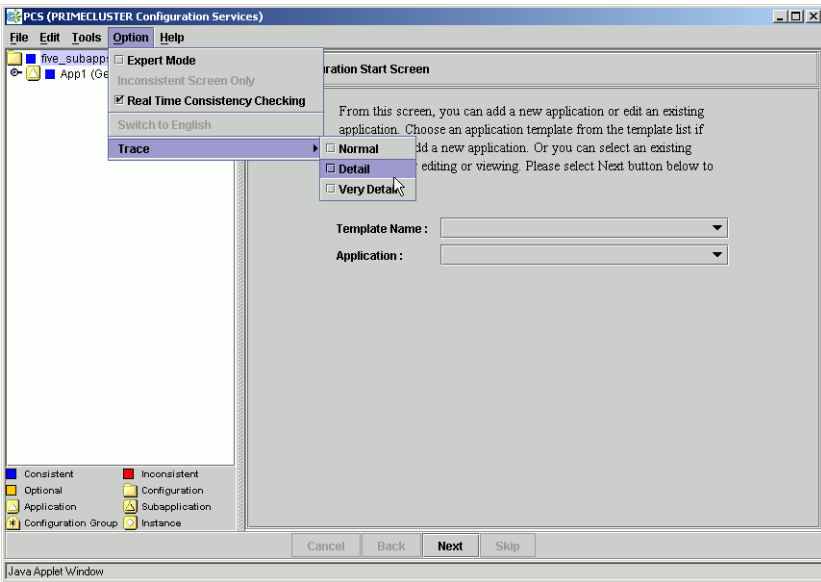

Figure 121: Controlling the log level with PCS
- From any PCS window, select the configuration (or any other item) in the left-hand tree, then use *Option* → *Trace* and select the level of detail from the submenu (Figure 121).